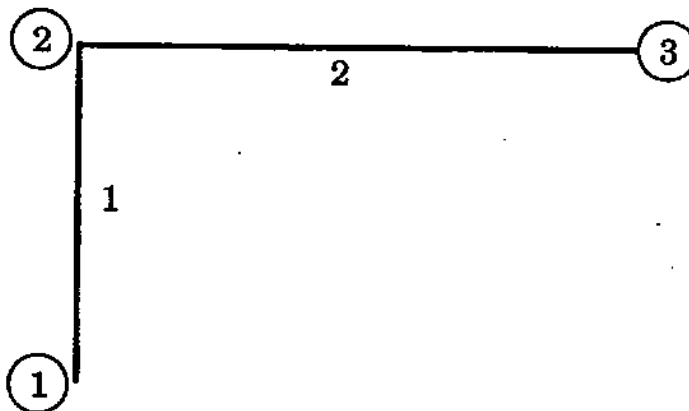

Figure 4
2. (a) A plane frame is shown in Figure 4. The stiffness matrix of elements 1 and 2 with respect to global axes are also shown. Assemble the global stiffness matrix of the frame. Node number is shown in circles. $8 \times 5 = 40$